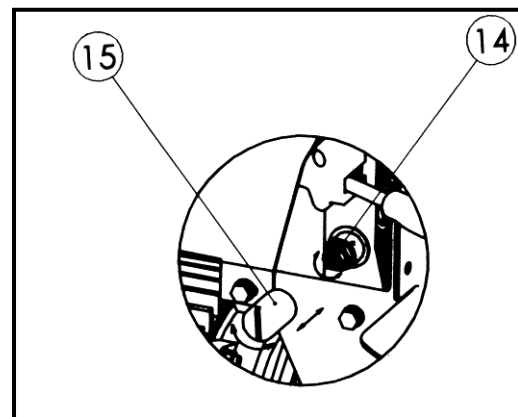

Fig. 4
DO NOT ADJUST THE MAX PRESSURE LIMITING SCREW (14) IN FIG. 4!
The max pressure limiting screw is protected by a plastic cap (15) as shown in Fig. 4, and never to loose and adjust it.